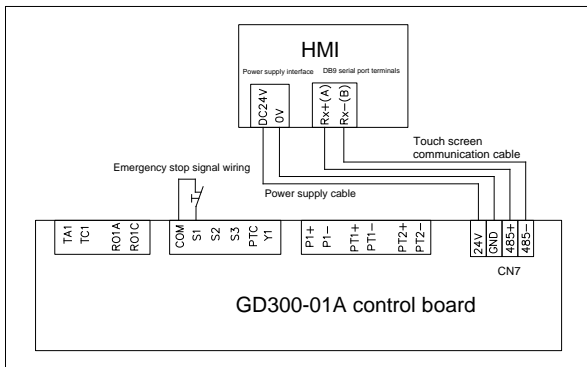

Figure B-60 Standard touch screen wiring diagram
**Note:** As shown in Figure B-60, the touch screen power supply interface is connected to CN7 of GD300-01A VFD control board.